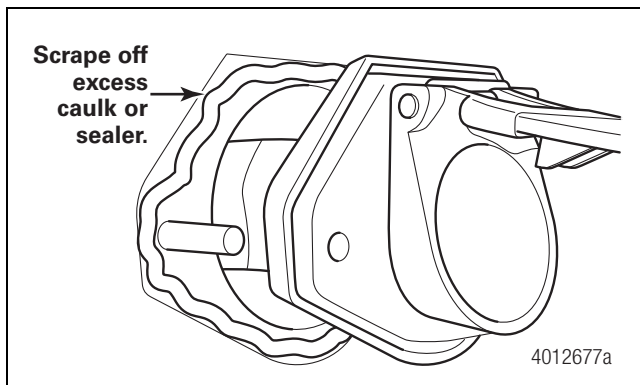

Figure 7
6. Using a plastic or wooden scraper, clean any excess sealer or caulking off the face of the trailer and receptacle to ensure the receptacle will seat flush against the trailer wall. Figure 7.